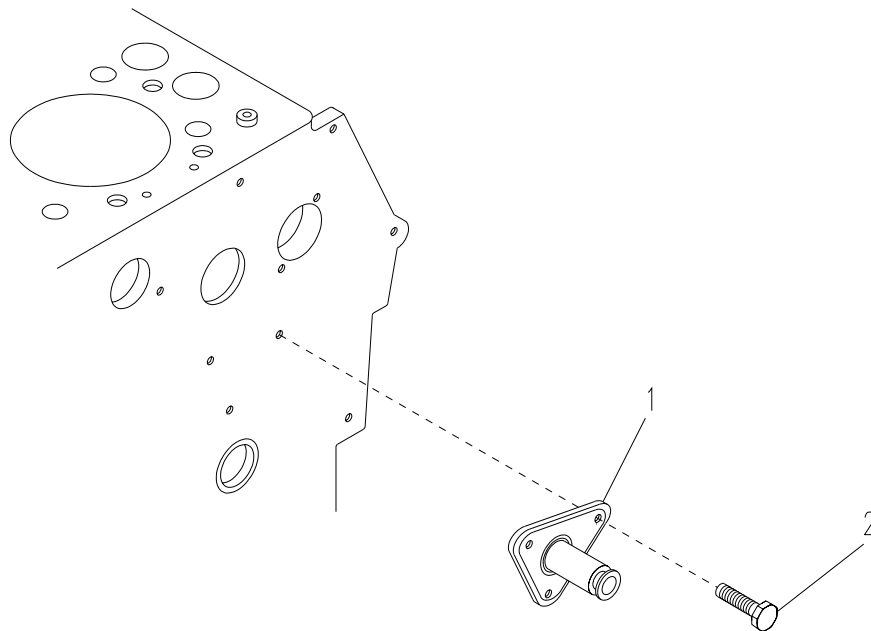

Figure 6-12. Idle Gear Shaft
- a. Remove three bolts (2, Figure 6-12) and remove idle gear shaft (1).
- b. Install idle gear shaft (1) and secure with three bolts (2).